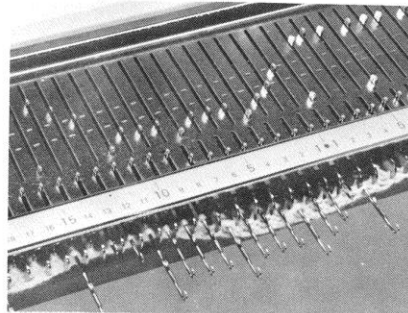

Fig.129
- a) Lift and move back the carriage to the starting end. (Fig.129)